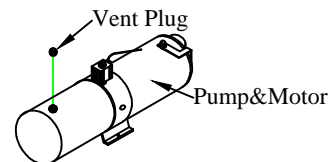

Figure 22: Vent plug.
- 2. Unscrew** the solid plastic plug from the pump reservoir and **Install** the vent plug provided (Figure 22).